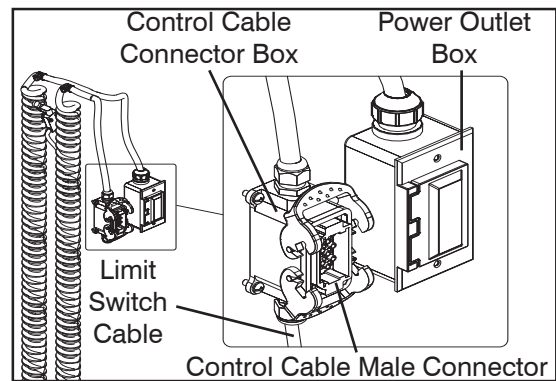

Figure 5-40. Electrical Connector Installation
8. Fish the limit switch cable behind the operating manual storage box, through the control cable connector block. See Figure 5-40.